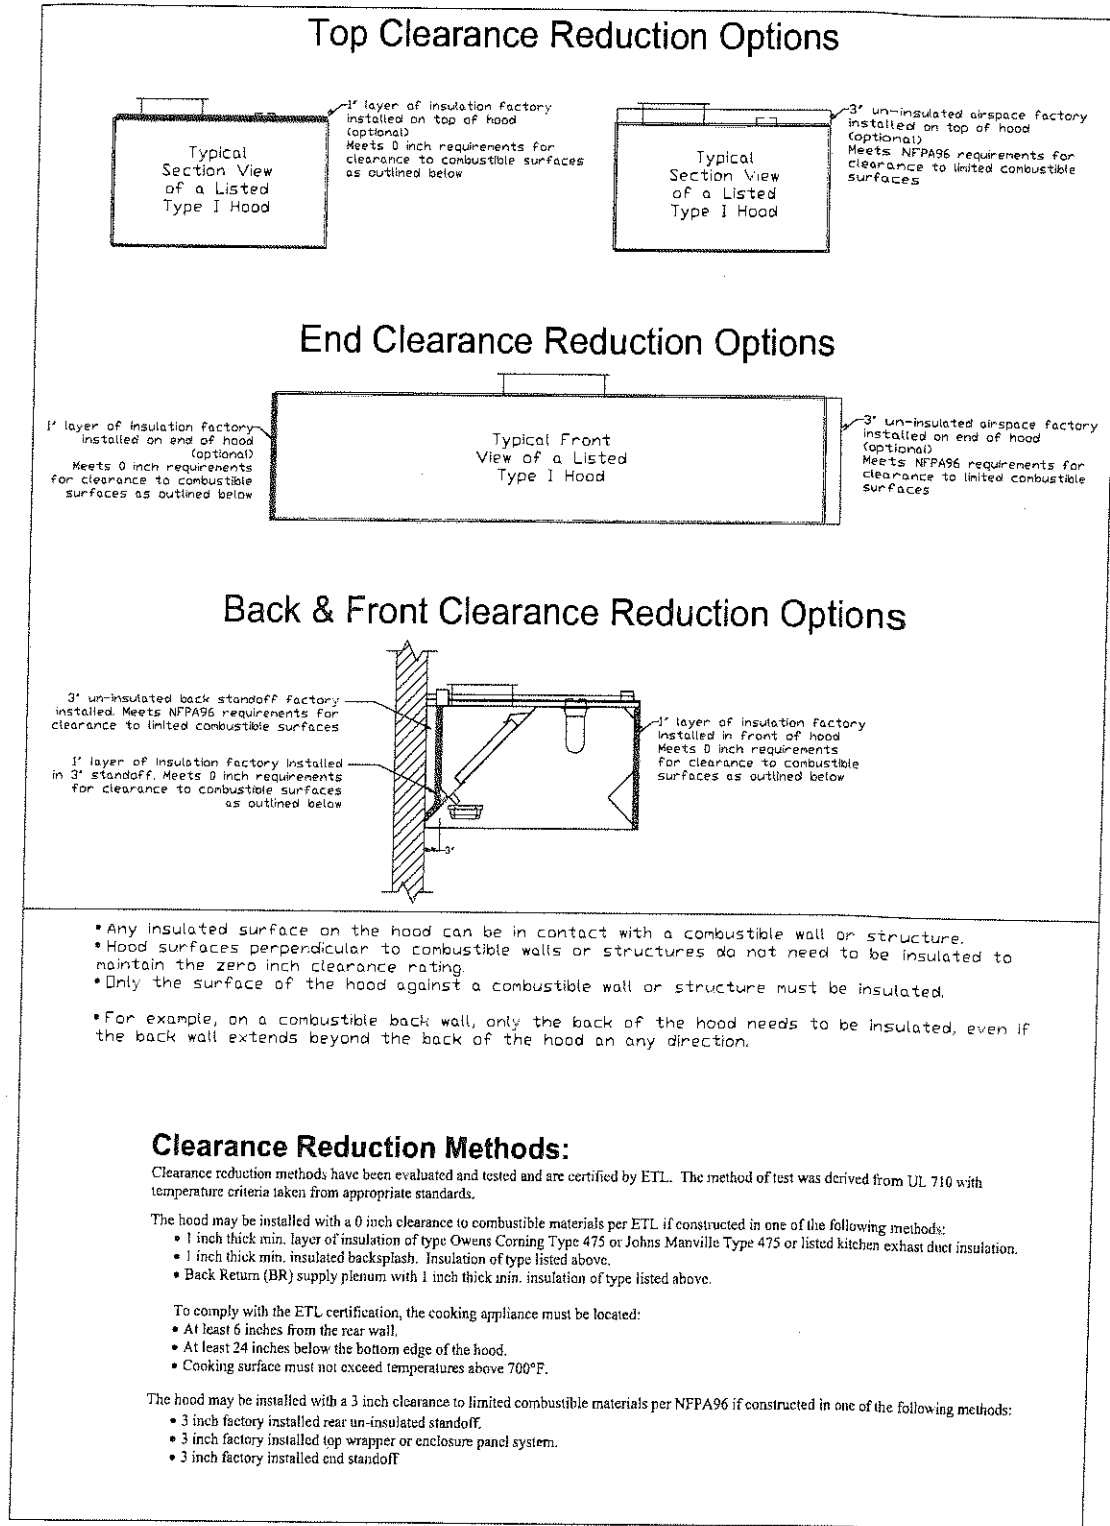

Figure 1
6. Determine if adequate room is available to install the hood and all ductwork with proper clearances from combustible material. IMC, NFPA96 and local authorities having jurisdiction call for a minimum clearance (typically 18 inches for type 1, grease rated hoods) between the cooking hood(s), exhaust ducts, and building materials which are combustible. However, IMC and NFPA96 outline acceptable clearance reduction methods; **most authorities accept the clearance reduction methods approved in the manufacturer's ETL listing for Type 1, grease rated hoods. See Figure 1.** It is important to check with the local authority having jurisdiction to determine that the installation method is satisfactory to meet their requirements prior to installing the equipment.